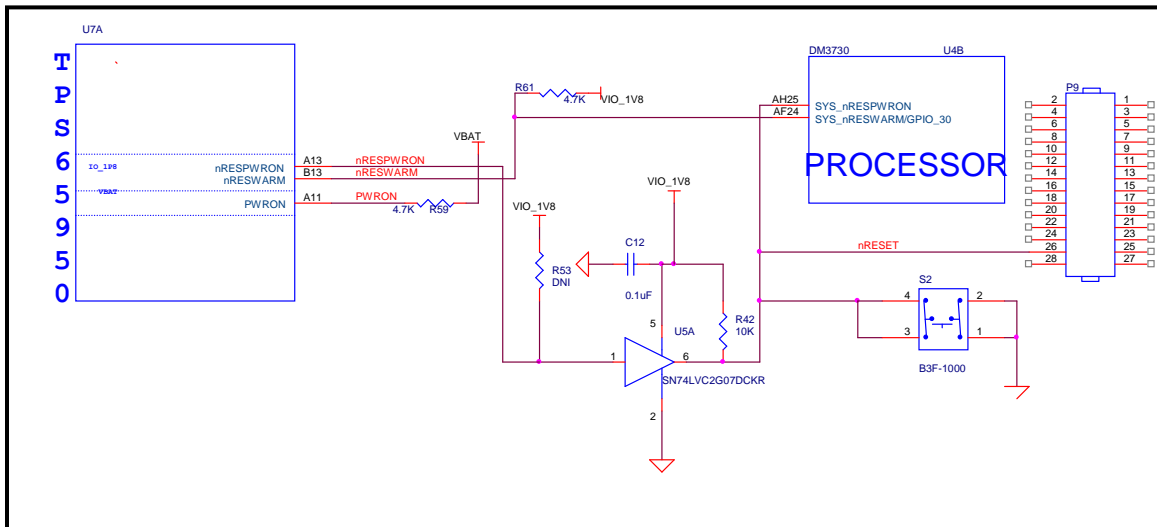

Figure 28. Reset Circuitry
**Figure 28** shows the connections for the Reset interfaces.